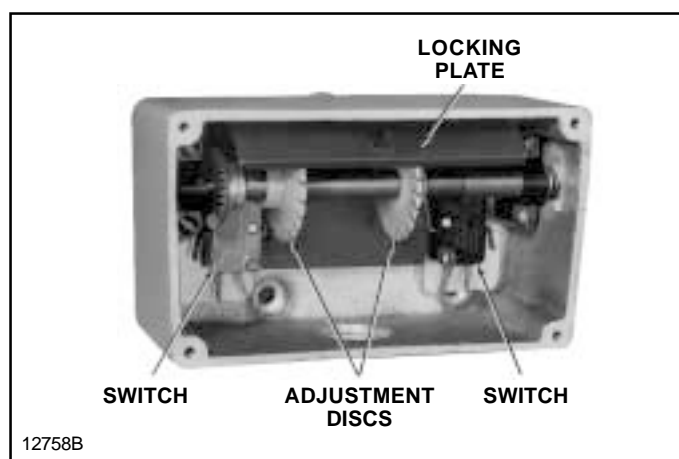

Figure 9-6. Screw-Type Limit Switch Adjustment (wires not shown for clarity)
**d.** This limit switch has a rotary screw driven by a gear reduction which is coupled to the end of the drum shaft. Adjustment discs operate the contacts of separate switches; one for the hoisting circuit and one for the lowering circuit. The switch assembly must be wired in accordance with the appropriate wiring diagram, which is packaged with hoist. Adjustment of this screw-type limit switch is accomplished as follows: (Refer to Figure 9-6).